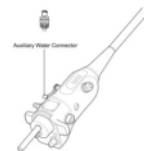

Figure 2
16. If using the 4-piece or 5-piece valve kit (Figure 4 or Figure 5), attach the auxiliary water jet connector to the auxiliary water port by screwing it onto the port (See Figure 2). When attaching the auxiliary water jet connector to the port, take care to ensure that the auxiliary water jet connector is aligned to the port and avoid excessive tightening. Misalignment or excessive tightening of the auxiliary water jet connector could lead to the possibility of leakage.